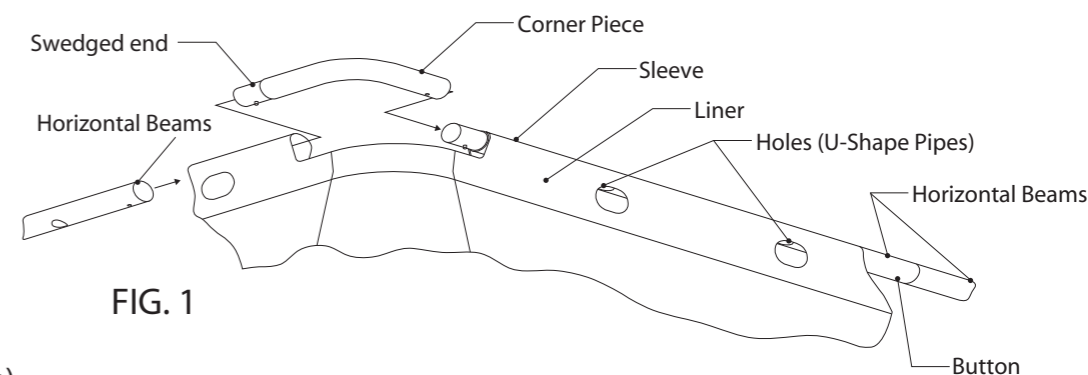

FIG. 1
2. Locate the four metal (Corner Pieces) of pipe Fig. 1, then place one at every corner of the pool. Now locate the (Horizontal Beams), insert a (O-Shape Spring) see Fig. 2 in each smaller swedged end of these only to join the beams together in length, **Note:** No O-Shaped Springs are used in the Horizontal Beam end attaching to the corner pieces or in the corner pieces themselves, please see the assembly drawing page 5 for proper O-Shaped spring locations.
direction around the pool with all swaged parts pointing clockwise) see Fig. 1 and refer to the **5** "View of All Frame Assembly Parts" shown on page 5.
Connect the (Horizontal Beams) together pushing the button in as you insert one beam into the other beams end. Look through the locking hole in the beam as you join them, slightly rotate the beams until the button aligns with the hole and pops up, locking that beams end into the other beams end. Repeat this procedure for the remaining (Horizontal Beams) making certain the holes in the beams align with the openings in the pool sleeve Fig. 1 these holes are used for the U-Shape Pipe (end) and (side) supports. Next install the corner pieces (**again working in a clockwise direction with swaged ends pointing clockwise**), slide them together and repeat this procedure for all corners, on the last corner it might be necessary to lift the final joining connection at an angle to allow the pipes to fit into each other slowly lowering the ends flat again then sliding them together until it fits in completely, this step may require two people. Now double check all (Horizontal Beam) and (Corner Piece) connections at this time.